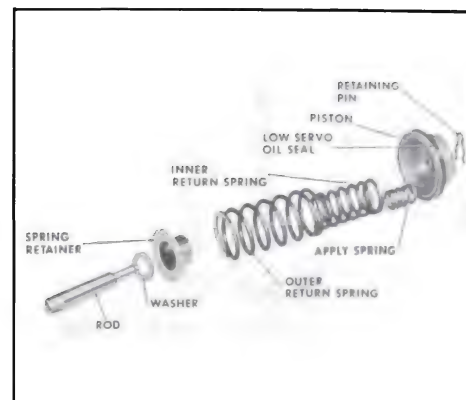

Figure 5-179
3. After hydraulic ram has been released remove piston low servo apply piston spring inner, outer return springs, spring retainer, washer and piston apply rod. See Figure 5-179.